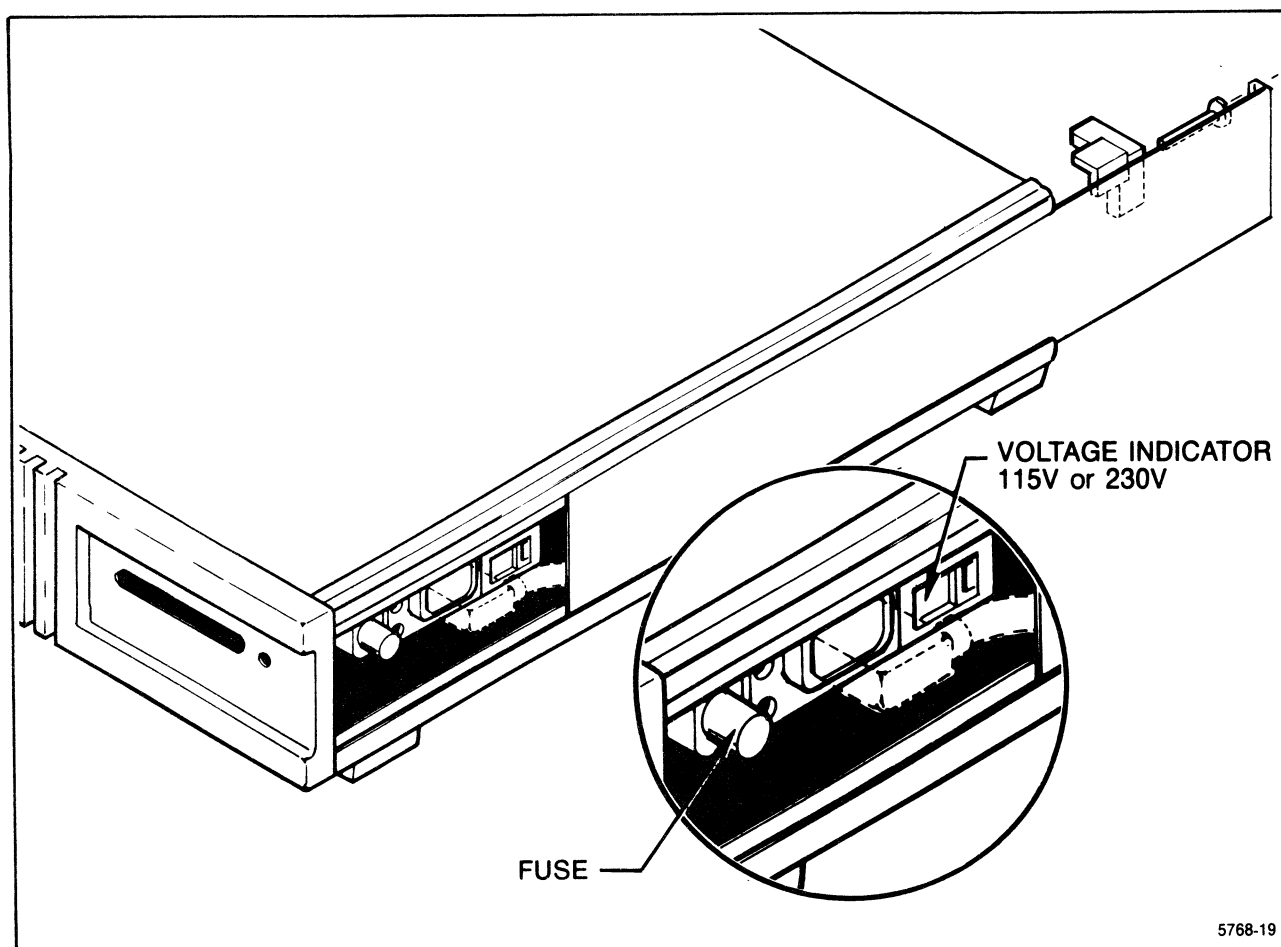

Figure B-3. Selecting a different voltage range.
3. Figure B-3 illustrates the location of the fuse and voltage selector switch. Use an insulated screwdriver to select either 115V or 230V. The selected voltage will appear on the switch's legend.